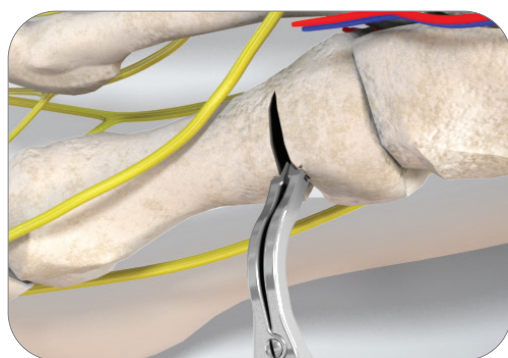
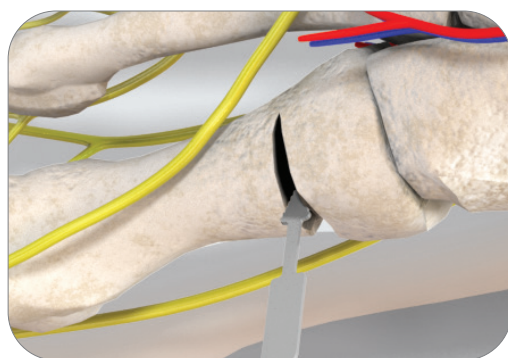

Figure 4-1a
Figure 4-1b
**4-1** The appropriate opening wedge plate is selected based on intraoperative assessment. This system has several options to assess the correct wedge size. These include a calibrated spreader, (382000) (**Figure 4-1a**) or a distraction gauge, (FDGTFS01) (**Figure 4-1b**). The beveled edge of the wedge will help to push the osteotomy open and seat the plate.